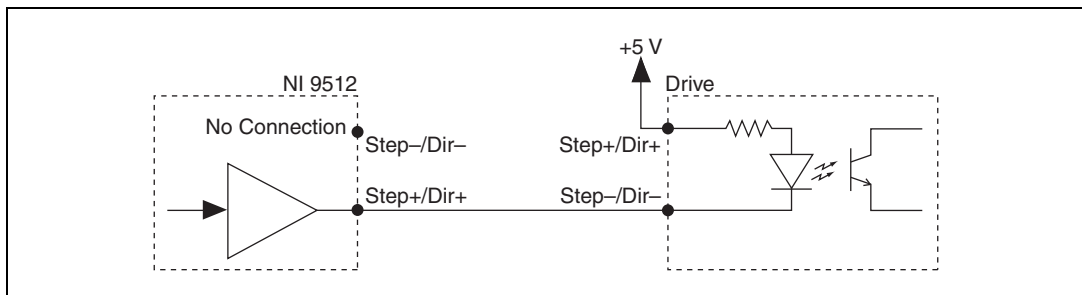

Figure 3-3. Opto-Isolated Step and Direction Output Connection
Many stepper drive manufacturers offer opto-isolated inputs for Step (CW)/Direction (CCW) signals. When connecting to opto-isolated inputs, configure the Step output type to single-ended, connect the NI 9512 Step+ output to the negative (cathode) side of the optocoupler input, and leave the Step- output on the NI 9512 disconnected. Connect the positive (anode) side of the drive input to a supply as specified by the drive manufacturer. Figure 3-3 shows a single-ended connection example.